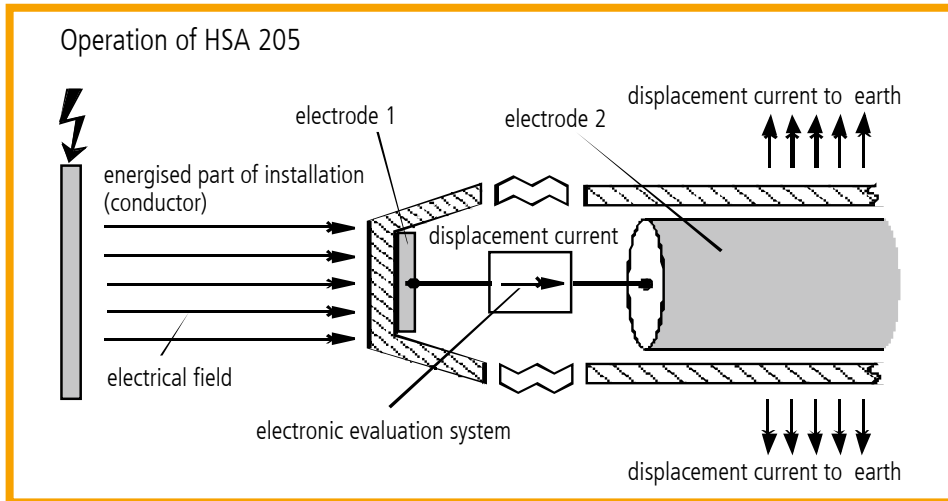

Fig. 4 Functional principle
- 3.1** If the operating head of the voltage detector is inserted into such an electrical alternating field, a displacement current flows via the measuring electrodes **E1** and **E2** (capacitor principle), which is evaluated and indicated by the downstream electronic system (visually and acoustically) (Fig. 4).